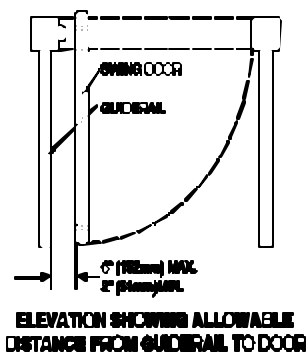

Figure 10
8. Finger Guard. If installed, inspect finger guard to see that it is secure and in good repair. (See Figure 10)